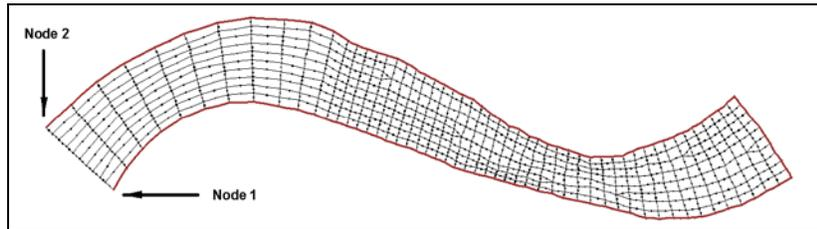

Figure 10 The nodelist to create for smoothing.
2. Click the node labeled *Node 1* in Figure 10.
3. Hold the *CTRL* key and double-click the node labeled *Node 2* in Figure 10. When holding the *CTRL* key, *SMS* creates a nodelist counter-clockwise around the mesh boundary from the first node to the second node.